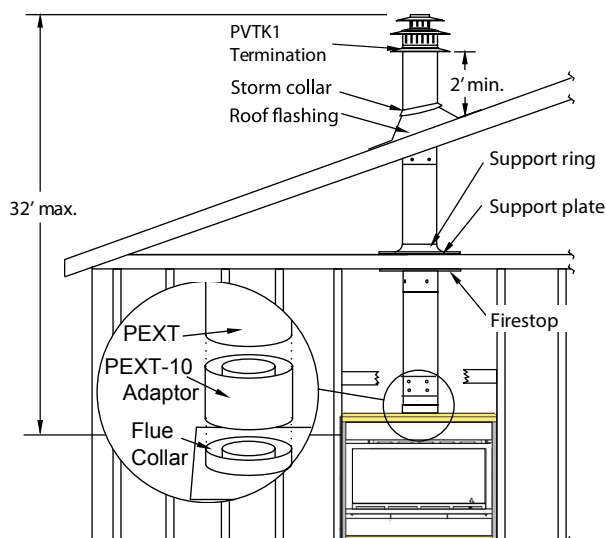

Figure 10. Top vent, Roof mounted termination with no offset in vent run.
- **The Vertical termination must be a minimum 2' higher than where the termination exits the roofing materials, (asphalt shingles, cedar shakes, etc).** This distance should be measured from the high side of the roof slope where the flue flashing intersects the roofing materials. (see **Figures 10 - 10c**).